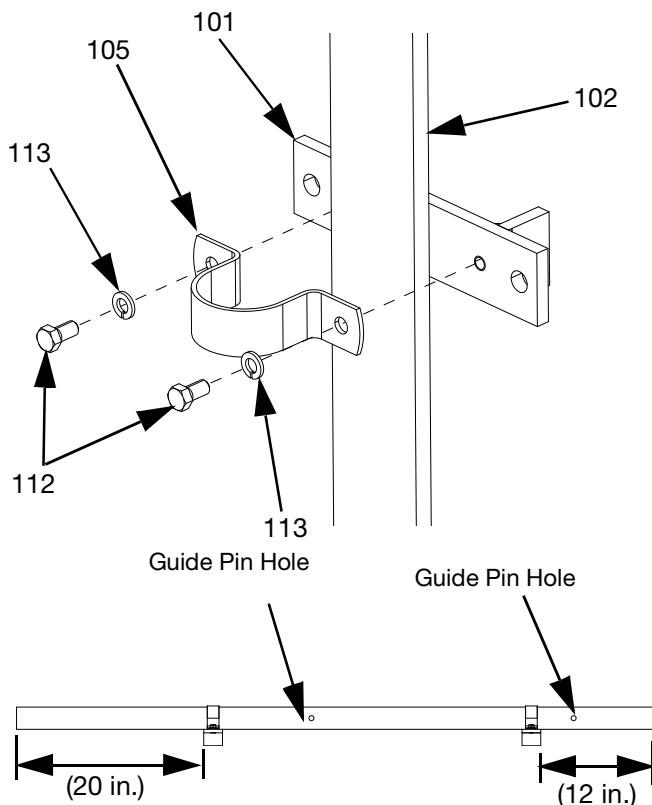

FIG. 2
1. Attach the outer pipe support (102) to the cylinder support brackets (101) using the supplied pipe straps (105), screws (112), and washers (113). The pin guide hole in the outer support pipe should be positioned parallel to the cylinder support brackets to simplify installation. See FIG. 2 for recommended mounting locations on the pipe. Do not fully tighten hardware. Keep loose for adjustment. Final torques to be applied in step 16.